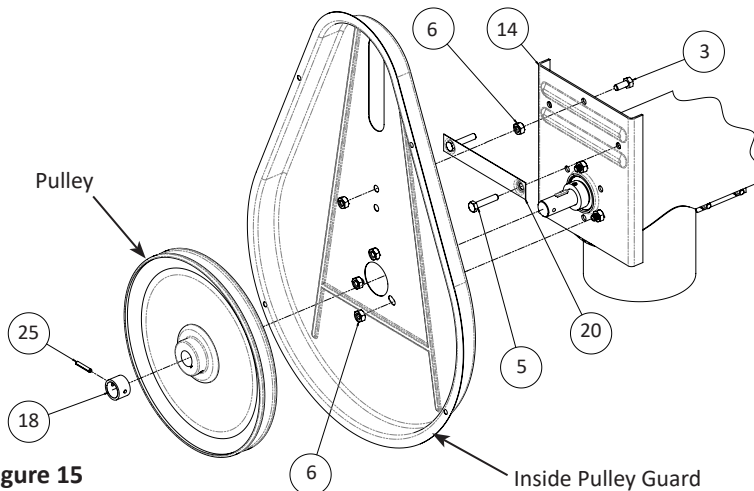

Figure 15
- Assemble inside pulley guard to bearing retainer plate, using 5/16-18 hex nuts and lock washers. Back off the set screw in the pulley on the drive shaft. Slide pulley onto auger drive shaft. Attach the pulley spacer collar on the end of the shaft with the 3/16" x 1-1/8" expansion pin. Slide the pulley out against the collar and tighten the set screw against the Woodruff key (Figure 15).